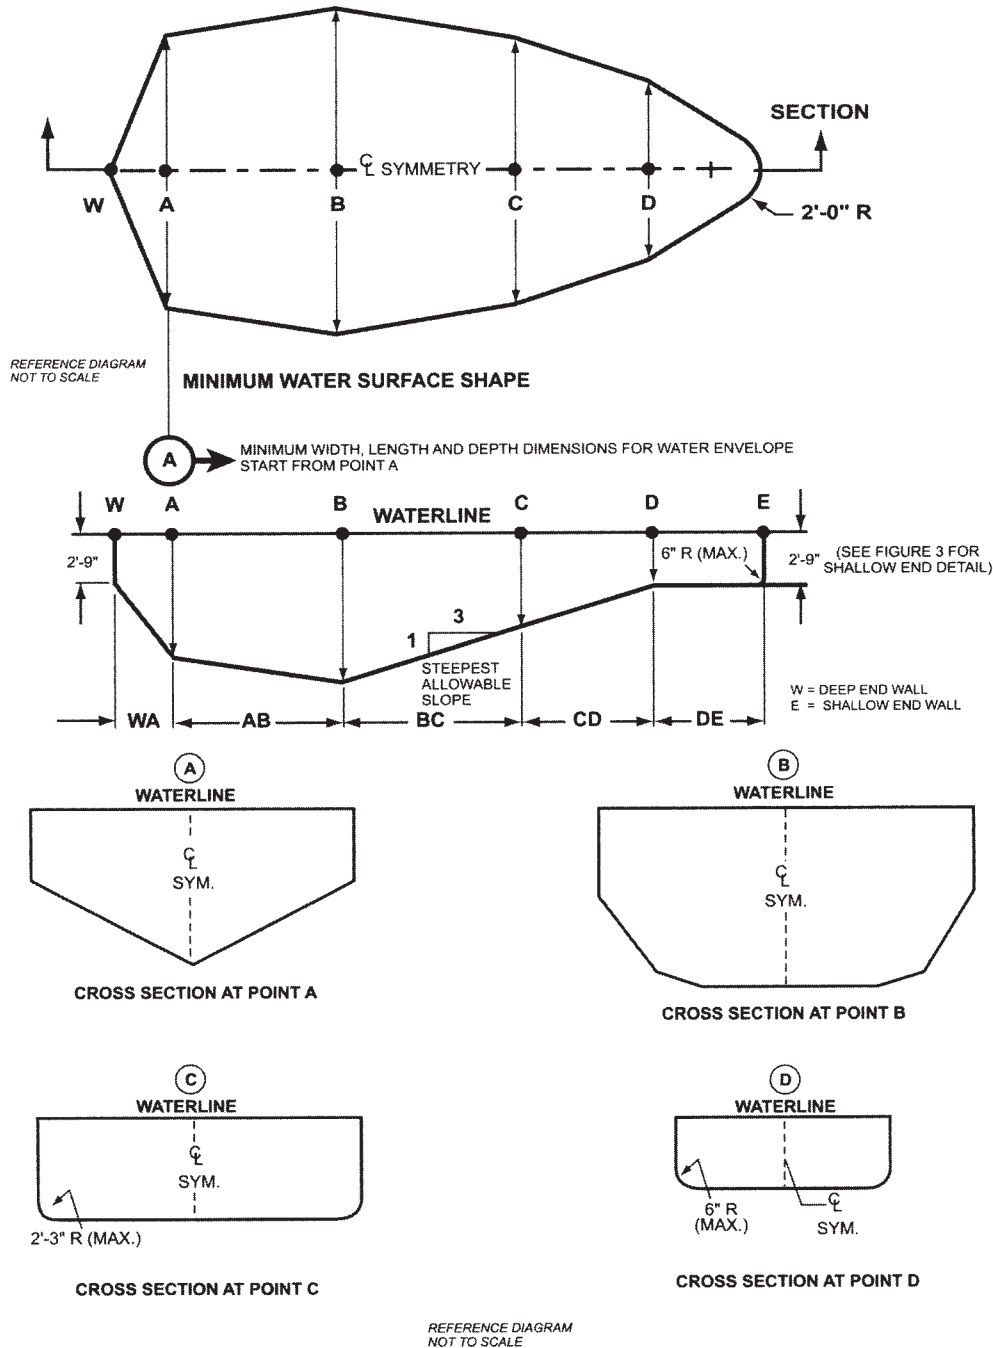

Figure 3 – Minimum water envelope
5.3.3 The walls of Type I pool, when defining the minimum diving water envelope, shall be plumb or outside of Type 1 water geometry. (See figure 3, table 1.)